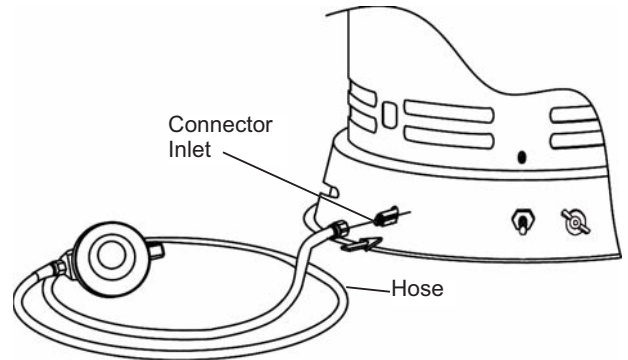

Figure 6. View of Hose and Inlet
- To connect to heater inlet, rotate clockwise and tighten firmly with a wrench (see Figure 6).